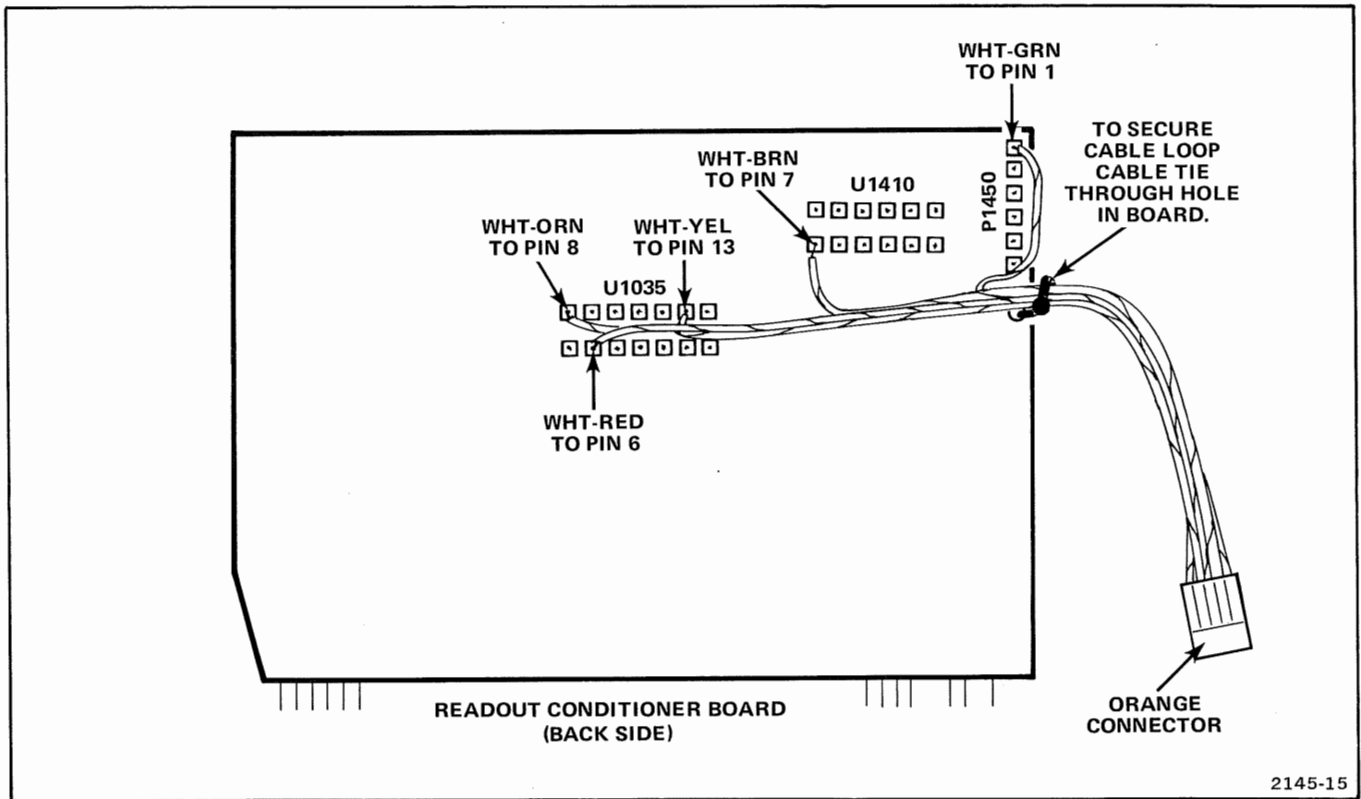

Figure 1-18. Installing 5-wire cable to 414 Readout Conditioner Board.
3. Install 5-wire cable (with orange connector) to Readout Conditioner Board as shown in Figure 1-18.